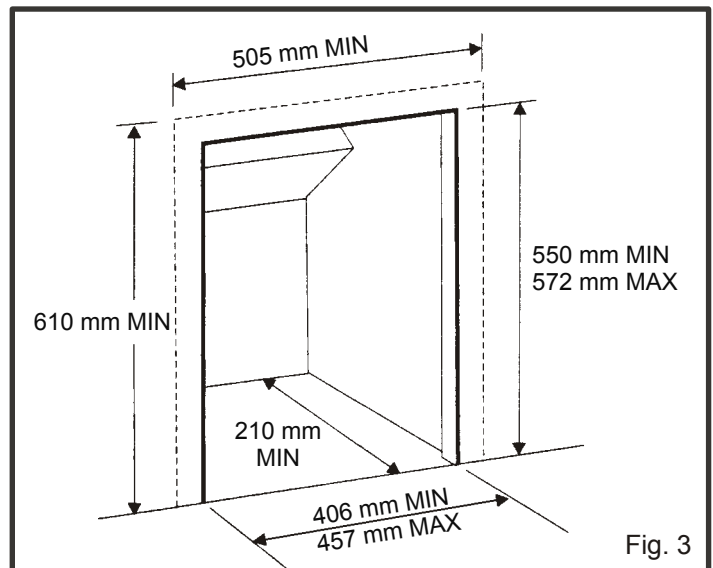

Fig. 3
The minimum dimensions for the fireplace opening for a brick chimney are as shown in Fig. 3. It will not normally be necessary to remove any chair brick provided the minimum depth is obtained. A chimney previously used to burn solid fuel must be swept prior to installation.
1. If the flat area around the front opening of the box is less than as specified in Fig. 3, it may be necessary to use additional sealing material to achieve a good seal.